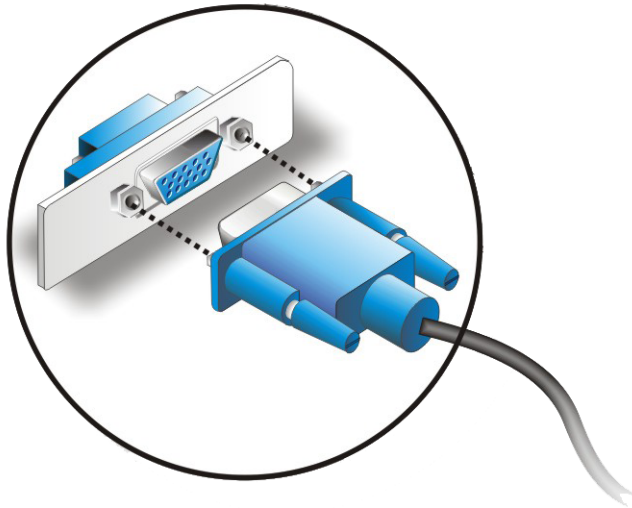

Figure 5-18: VGA Connector
Step 3: Insert the VGA connector. Once the connectors are properly aligned with the insert the male connector from the VGA screen into the female connector on the 3308460. See **Figure 5-18**.